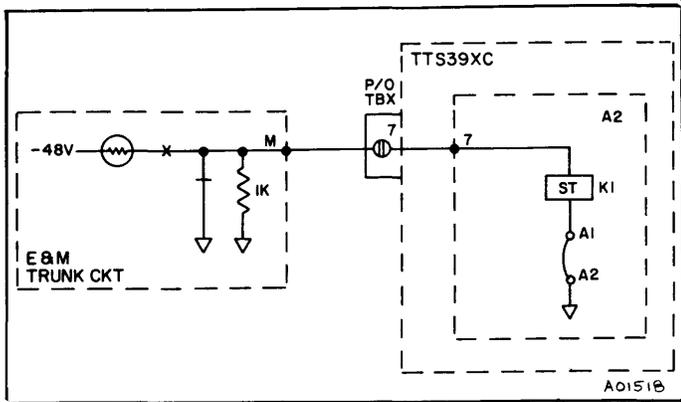

Figure 3-1. Typical Type I E&M Start Control
3.10 There are several strapping options on the TTS 39XC output module. During final testing at the factory, these straps are positioned using the information normally found on the purchase order. Before installing the equipment, inspect the strapping on the output modules to ensure that the equipment will perform as expected. Table 3-1 provides a summary of the strapping options available. Figures 3-1, 3-2, and 3-3 show the interconnections required for seizure when operating with E&M signaling interfaces.
| * See Figures 3-1, 3-2, and 3-3 for typical applications using Types I, II, and III E&M seizure. | |
| | | | | 7&8 | See Figs. 3-1, 3-2, and 3-3 |
| IN 1 | TTS 39A TB1-12* | | | 8 ↓ or 7&8 | sleeve if used for start See Figs. 3-1, 3-2, and 3-3 |
| | | 8 | N.O. transfer contact | 8 ↓ or 7&8 | sleeve if used for start See Figs. 3-1, 3-2, and 3-3 |